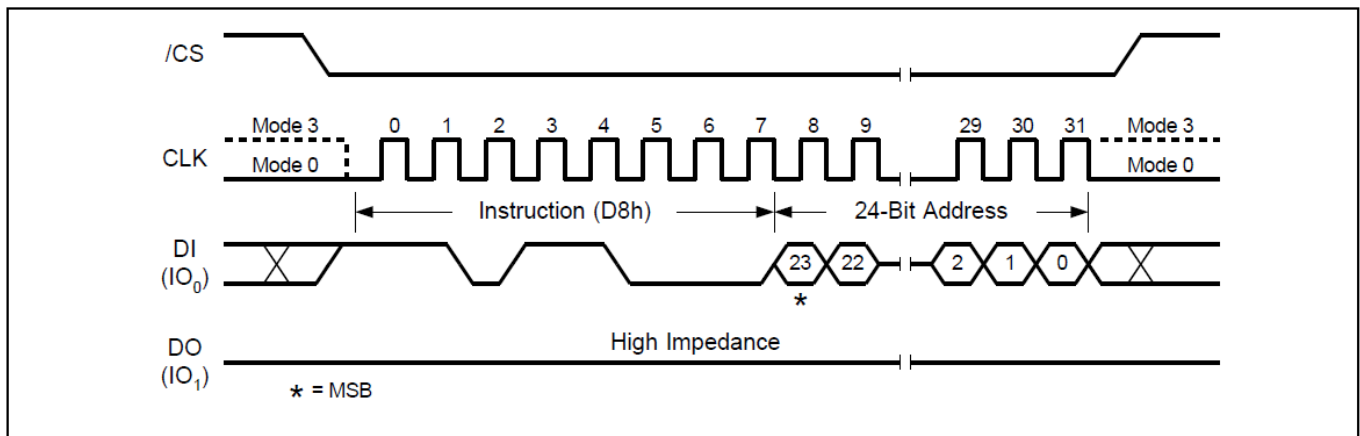

Figure18. 64KB Block Erase Sequence Diagram
The Chip Erase command sequence: CS# goes low → sending Chip Erase command → CS# goes high. The command sequence is shown in Figure18. CS# must be driven high after the eighth bit of the command code has been latched in; otherwise the Chip Erase command is not executed. As soon as CS# is driven high, the self-timed Chip Erase cycle (whose duration is t_{CE}) is initiated. While the Chip Erase cycle is in progress, the Status Register may be read to check the value of the Write in Progress (BUSY) bit. The Write in Progress (BUSY) bit is 1 during the self-timed Chip Erase cycle, and is 0 when it is completed. At some unspecified time before the cycle is completed, the Write Enable Latch (WEL) bit is reset. The Chip Erase (CE) command is executed, if the Block Protect (BP2, BP1, and BP0) bits are 0 and CMP=0 or the Block Protect (BP2, BP1, and BP0) bits are 1 and CMP=1.